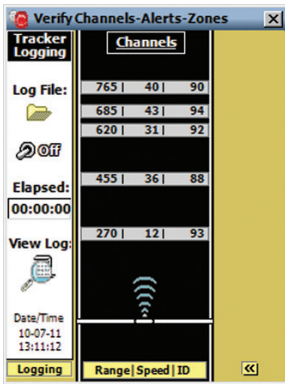

Figure 8.21 – Tracker Logging View
- **Logging View** – Allows you to create a log file (see Figure 8.21). The data can then be post-processed for performance analysis and can be used as the tracker data source when establishing a virtual connection.